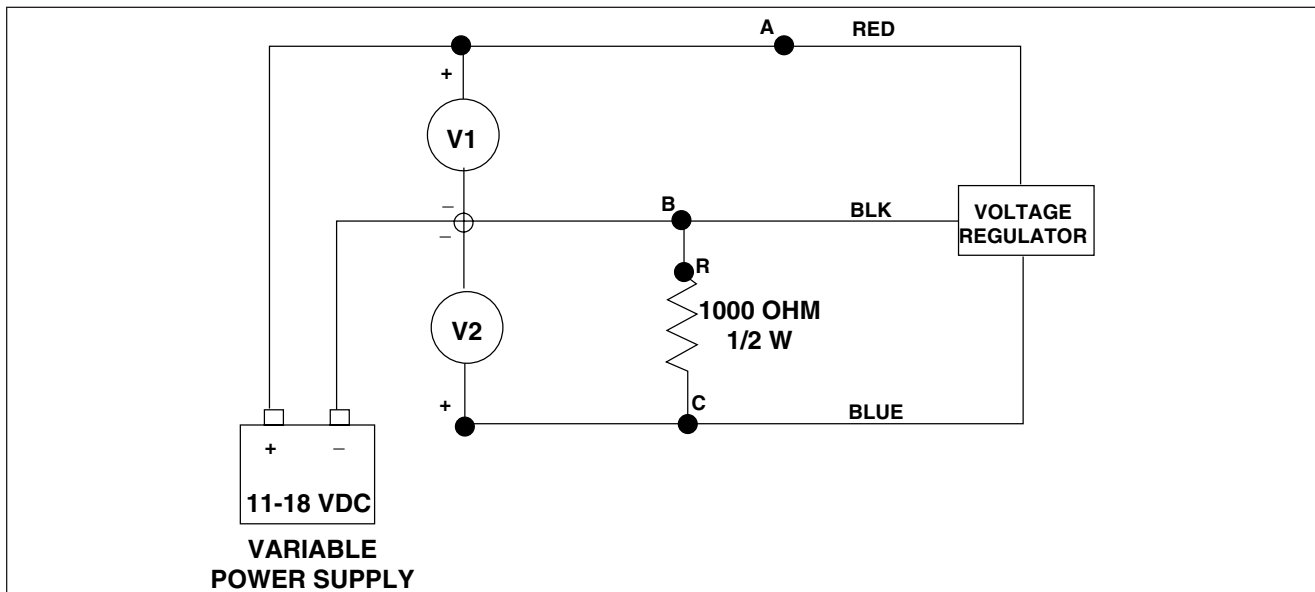

Figure 24-57. Lamar 14 Vdc Regulator Check
- (1) V1 Connections.
- (2) V2 Connections
- (b) Connect negative voltmeter lead to regulator ground wire (black). Incorporate a 1000 ohm, 1/2 watt resistor into the circuit. (Refer to figure 24-57.)